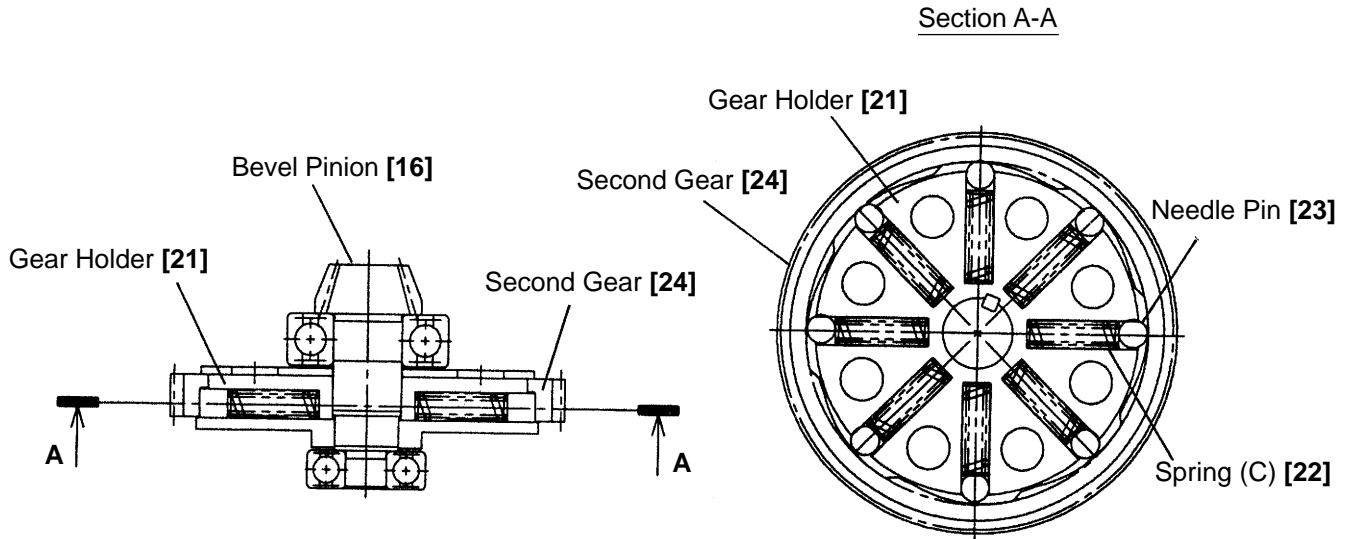

Fig. 19
(3) Slip clutch ass'y
Press-fit the Ball Bearing 6202 [18] into the Bevel Pinion [16] and insert the Washer [19] and then Washer (A) [20] into the Bevel Pinion. After mounting the Feather Key 3 x 3 x 8 [17] in the Bevel Pinion, press-fit the Gear Holder [21] into the Bevel Pinion. Next, apply special grease (for hammer and hammer drill) to the inner circumference of the Second Gear [24]. Install the Second Gear [24] on the outer circumference of the Gear Holder and place the Needle Pins [23] without inclination as indicated in Fig. 19, then press the Springs (C) [22]. Press in the Spacer [25] and then Ball Bearing 629 [26].